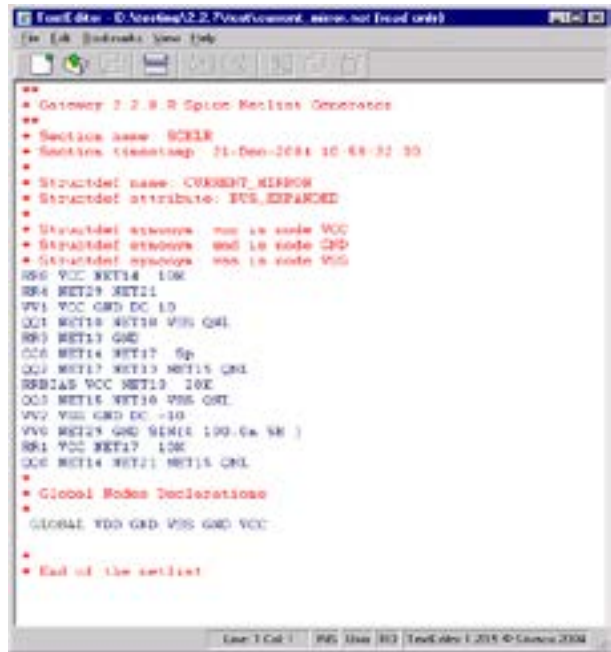

Figure 9. SPICE netlist generated from **Gateway**.
10. Create and View the netlist – see Figure 9